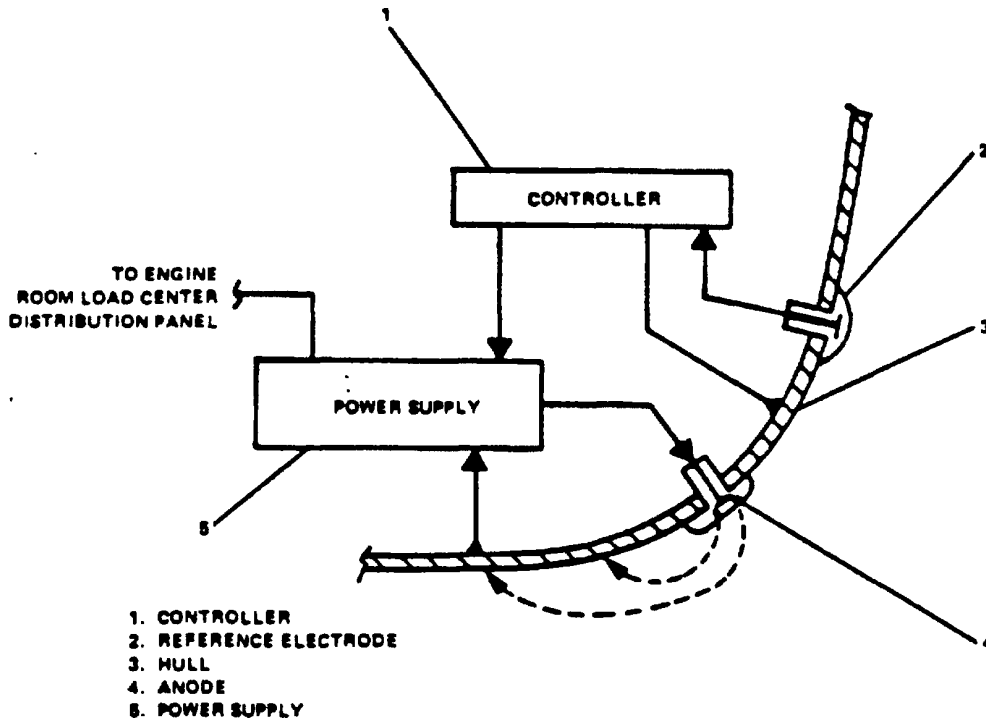

Figure 1-85. Cathodic Protection System Block Diagram.
**1-35. Cathodic Protection System.** The cathodic protection system (Figure 1-85) eliminates the rusting or corrosion which occurs on metal immersed in water. This system is installed on the exterior wetted hull of the LT. The system eliminates corrosion on the hull, rudder, and propeller. Corrosion protection of hull openings and recesses such as sea chests and intake and discharge